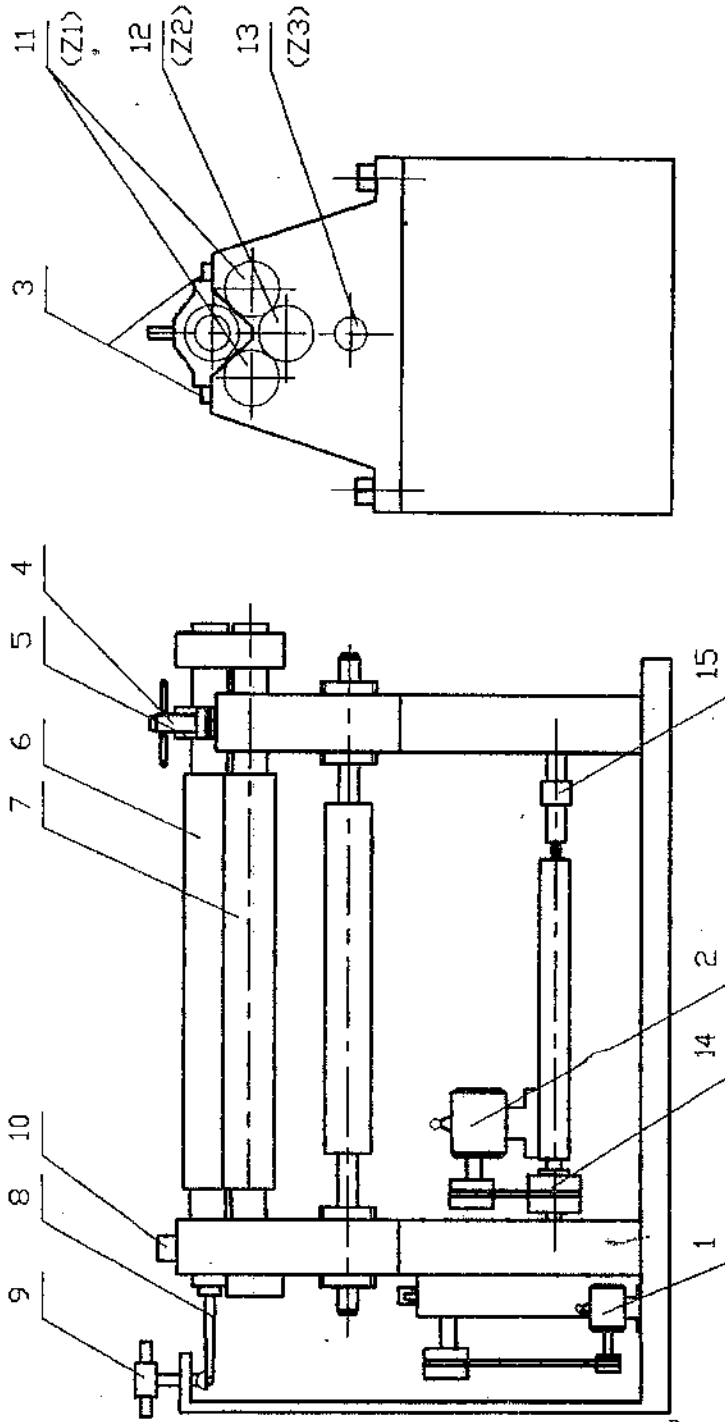

FIG 1.
The work piece is on the upper roller 6 Fig 1. to unload the work piece loosen the securing wheel 4 Fig 1. open the upper cover 5 Fig 1 loosen the stud 9 Fig 1 then press the ball bush of the upper roller. Start the up and down motor 2 Fig 1 the upper roller will rise. You can now remove the work piece
When you find the upper and lower rollers are not parallel you need to adjust the rollers. First loosen the left connecting rod four screws 15 Fig 1. rotate wheel 14 Fig 1 by hand in order to adjust the upper roller right end by 0.1mm with every rotation of the drive belt wheel.
- 1) Before adjusting the upper rollers up, you should loosen stud 9 see fig 1, then start the motor. When operating the machine, you should open the gearbox oil hole to add lubricating oil up to the full line, you should lubricate the driving gear surface and grease, add oil every month as required.
- 2) Add lubricating oil to the two-sided oil tanks (3) daily.
- 3) Add lubricating oil to the upper roller bearing glass (11) daily.
- 4) Open the upper roller bearing cover (5), add oil daily.
- 3) Before adjusting the Upper Roller Up. Loosen stud (see Fig 1 then start the motor.